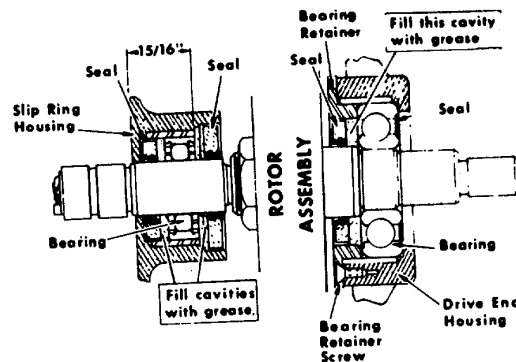

Fig. 24
- Press the new drive end bearing seal (approximately 2" outside diameter and 1-1/8" inside diameter) into the bearing retainer. See Figure 24 for proper installation of the seal.
- If the slip ring bearing and seals have been removed, press in a new rear seal (approximately 1-9/16" outside diameter) against the rear surface of the slip ring housing. The metal lip of the seal will contact the rear of the housing when properly installed, (See Figure 24.)
- Press in the slip ring roller bearing to the 15/16" dimensions shown in Figure 24.
- Fill the grease cavity of the largest rear seal (approximately 2 1/8" outside diameter and 7/8" inside diameter) and press in the housing with the metal lip toward the inside of the housing. Refer to Figure 24.